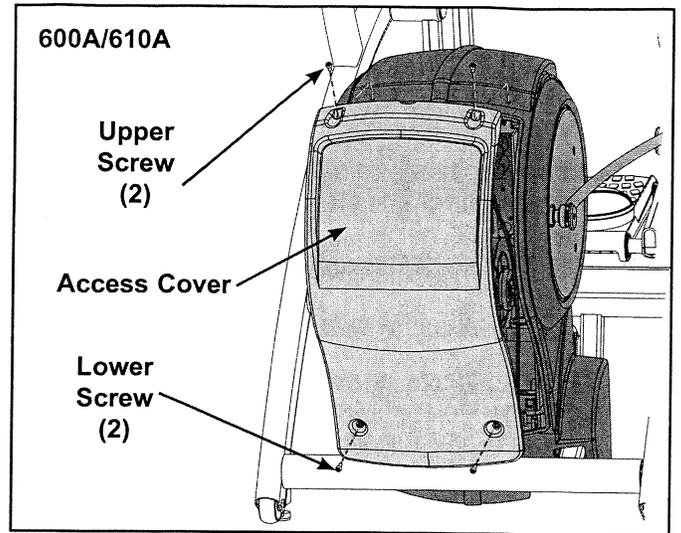

Figure 5a
A. Using a Phillips screwdriver, remove the two lower screws (one screw on each side) securing the access cover. See Figure 5a or 5b.
- B. Using a Phillips screwdriver, first tighten the two upper screws removed in step 8B. See Figure 5a or 5b. **NOTE:** Do not over tighten screws.
- C. Tighten the two lower screws, removed in step 8A. **NOTE:** Do not over tighten screws. See Figure 5a or 5b.